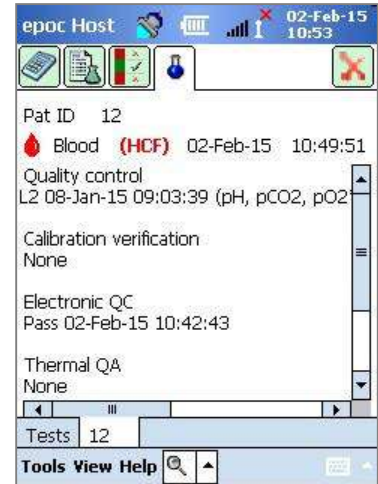

Fig. 46.
- c. Open the fourth tab (Fig. 46) to display the QA status at the time the test was performed.